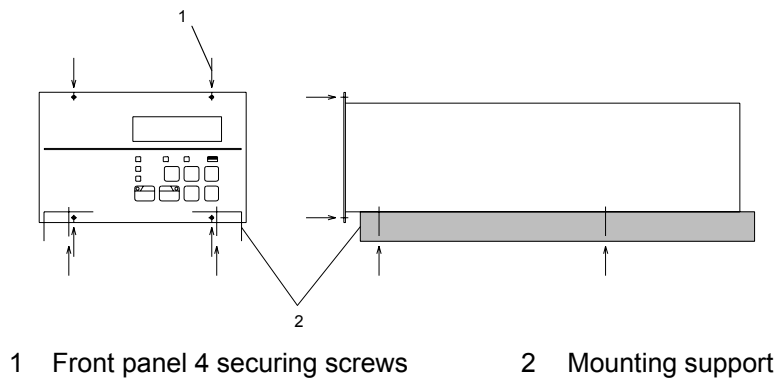

Figure 13 - Example of securing the SCU-XL800
*Note: For the dimensions of the front panel and positions of the screw holes for the rubber feet, refer to Figure 9 and Figure 13.*
- Attach the front panel to the rack using the 4 screws Figure 13 (1).
- Support the SCU-XL800 from the bottom using a support angle Figure 13 (2) or a similar tool.